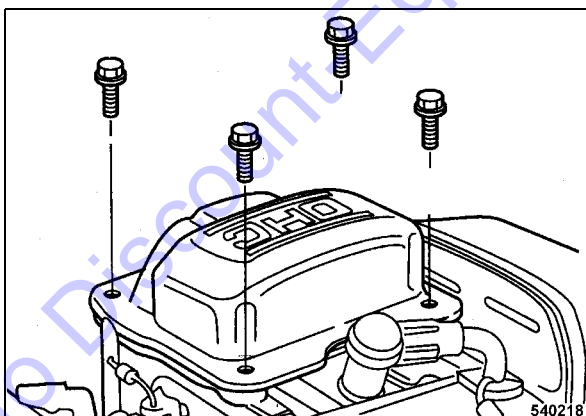

Fig. 44
- Unscrew the fastening screws for the cylinder head cover (Fig. 44).